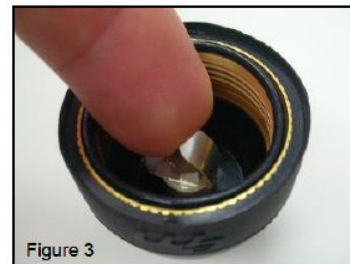

Figure 3
- b. Ensure O-ring groove as shown in Figure 3.
4. Tuning and Installation (Figure 3):